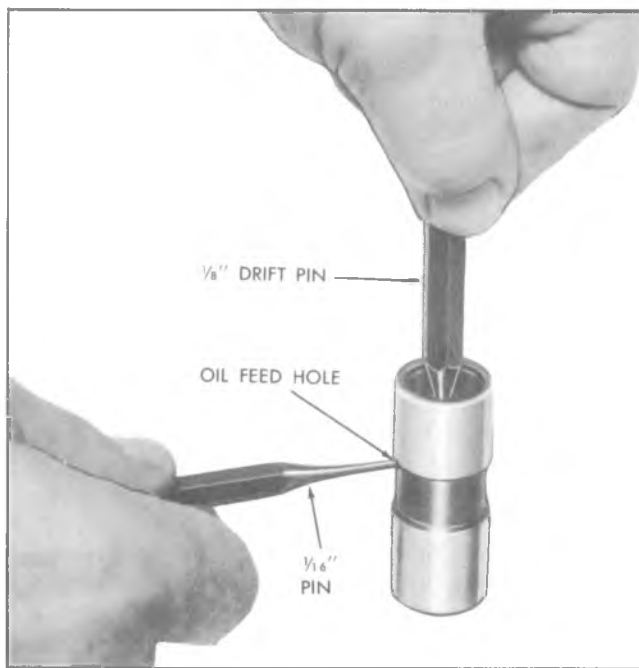

Fig. 6A-20V--Assembly Hydraulic Lifter
hold the plunger down against the lifter spring tension (fig. 6A-20V).
7. Install the metering valve and push rod seat (fig. 6A-17V).